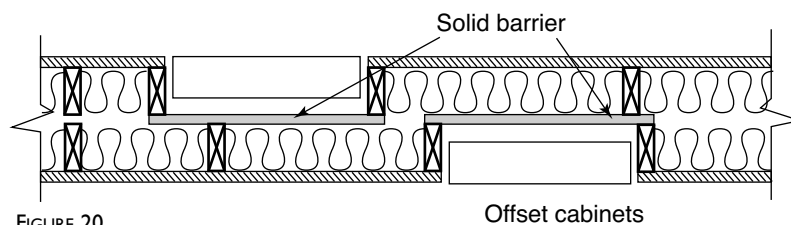

FIGURE 20
- ◆ Surface mount the cabinets, mount them resiliently, and provide them with a mechanism to close the doors gently (see Figure 20).